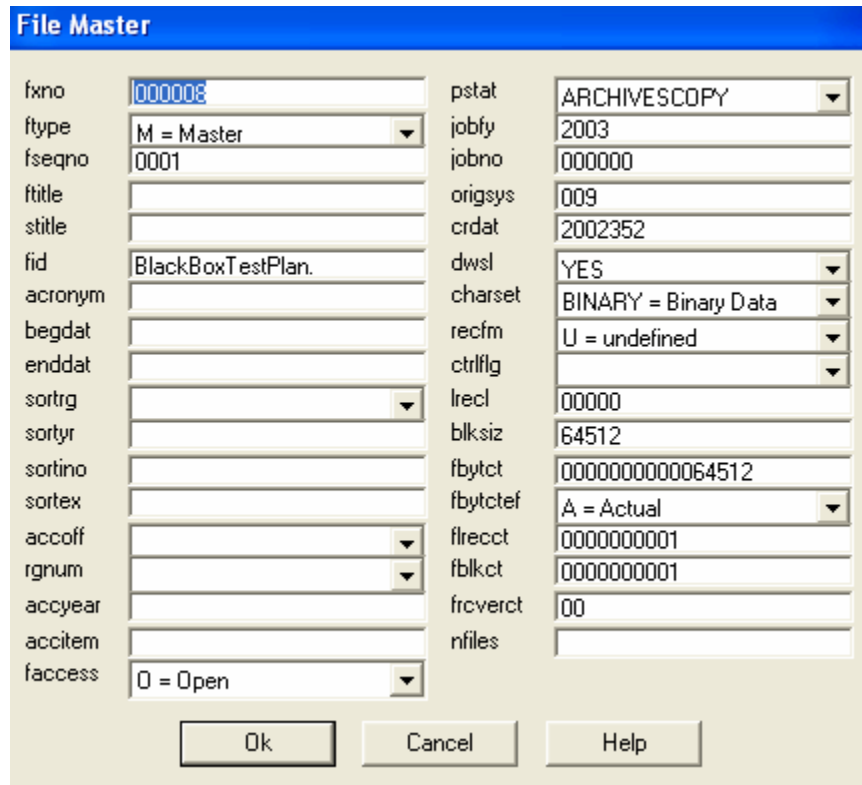

Figure 113: Edit Dialog Box
5. Edit main-row: Pressing the Edit button on the left side of the dialog box will pop up the database row edit dialog box to allow editing the current main table row. Only supervisors may edit a row in a table. The dialog box for Edit is shown in Figure 113: Edit Dialog Box.